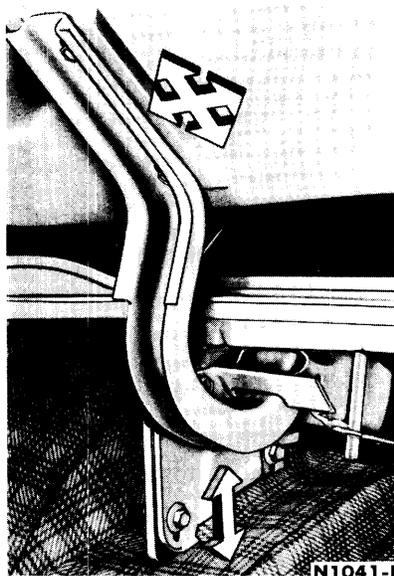

FIG. 16—Deck Lid Hinge and Adjustments
2. Remove the hinge to deck lid bolts (Fig. 16), and remove the deck lid. Remove the deck lid ornament and lock from the deck lid. If it is necessary to remove the hinges, remove the hinge bracket bolts (Fig. 16).
The deck lid can be shifted fore and aft, up and down, and from side to side as shown in Fig. 16. Care should be taken not to distort or mar the deck lid or body panel so that an unsightly appearance results.
3. Remove each torsion bar using a long screwdriver and vise-grips, pry the anchor end of the torsion bar out of its adjustment notch (Fig. 16). **The bar must be securely held with the vise-grips.**
As the tray retract limit switch opens, another set of contacts in the same switch close (Fig. 16), allowing current to flow to the deck lock relay and through the deck lock limit switch to the deck close power relay. The electric-hydraulic pump and the